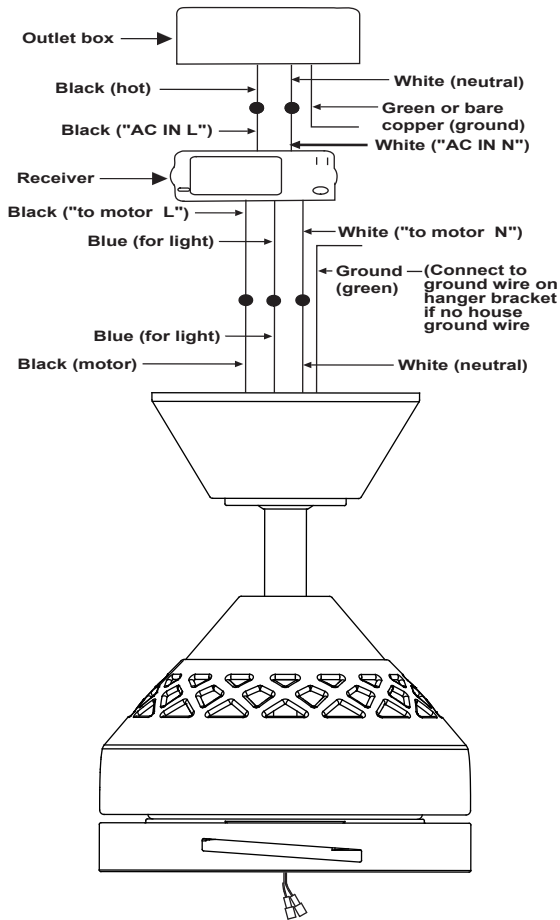

Fig. 14
Step 2. Motor to Receiver Electrical connections (Fig.14). Connect the black wire from the fan to the black wire marked "TO MOTOR L" on the receiver.
Step 3. Receiver to House Supply Wires Electrical Connections: Connect the black (hot) wire from the ceiling to the black wire marked "AC in L" from the receiver. Connect the white (neutral) wire from the ceiling to the white wire marked "AC in N" from the Receiver. Secure the wire connections with the plastic wire nuts provided. (Fig. 14)
Step 4. If your outlet box has a ground wire (green or bare copper) connect it to the fan ground wires; otherwise connect the hanging bracket ground wire to the mounting bracket. Secure the wire connection with a plastic nut provided. After connecting the wires, spread them apart so that the green and white wires are on one side of the outlet box and black and blue wires are on the other side. Carefully tuck the wire connections up into the outlet box. (Fig.14)